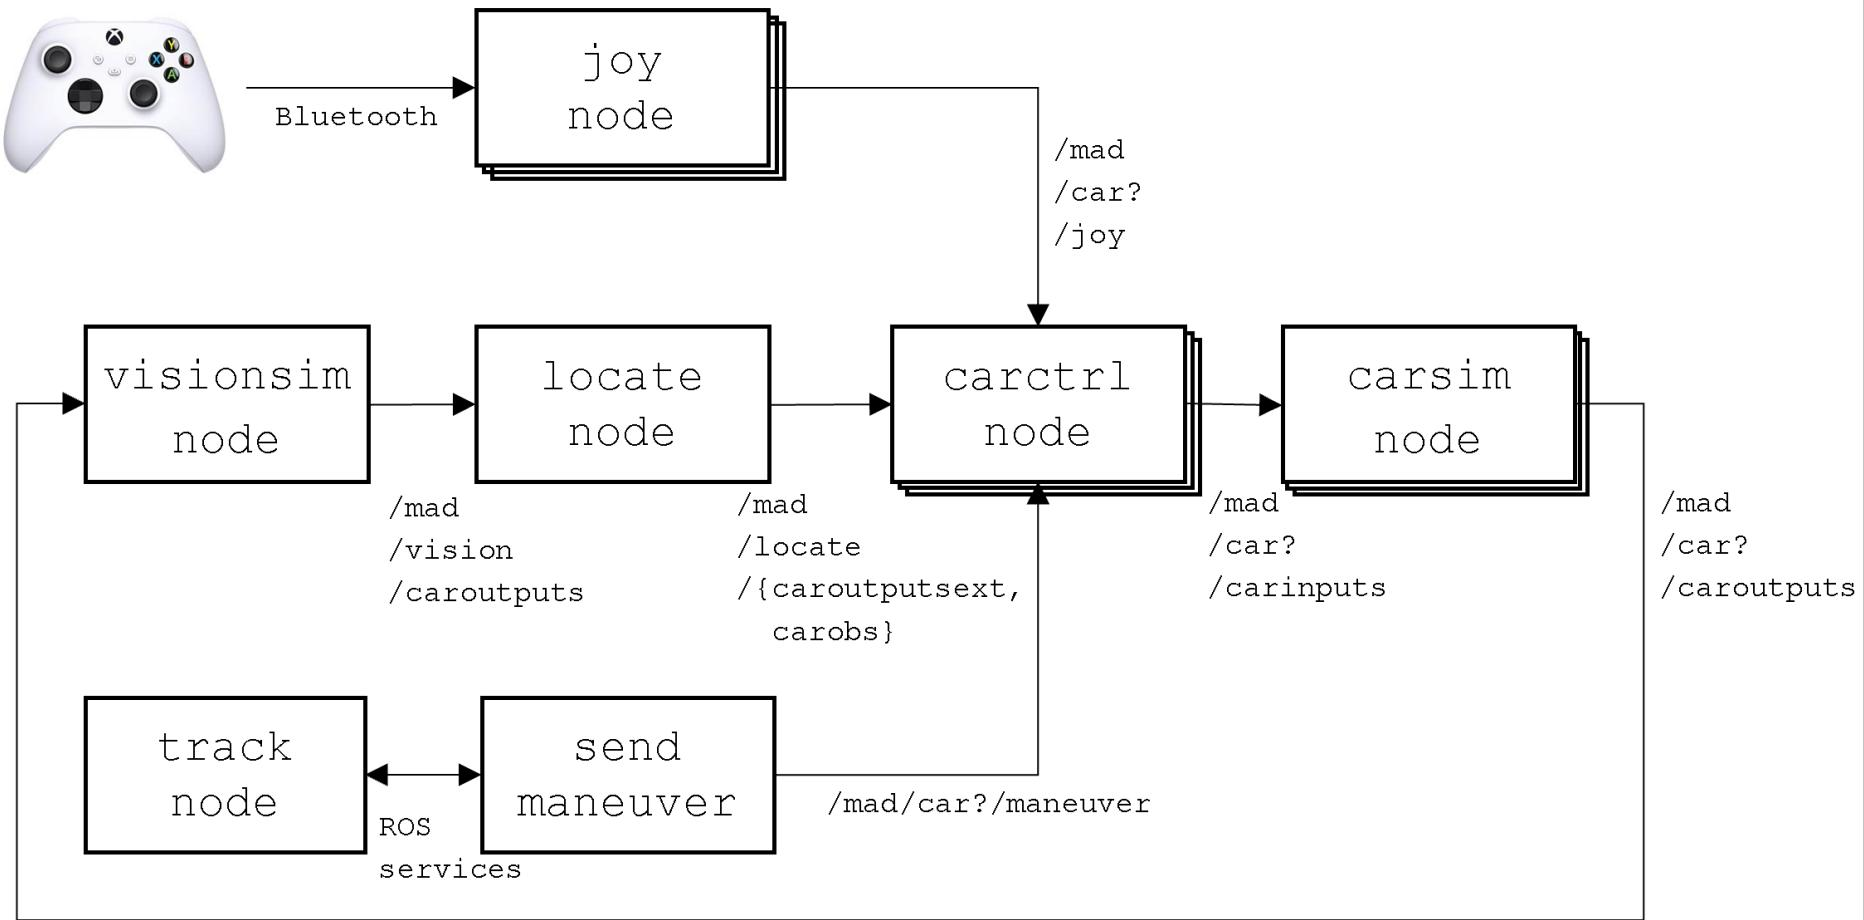

Figure 11: ROS2 nodes in SiL simulation mode
- `c71_car0_template.slx` runs as a ROS2 node replacing the ROS2 node `carctrlnode` in Figure 11
- All other ROS2 nodes of Figure 11 run as usual